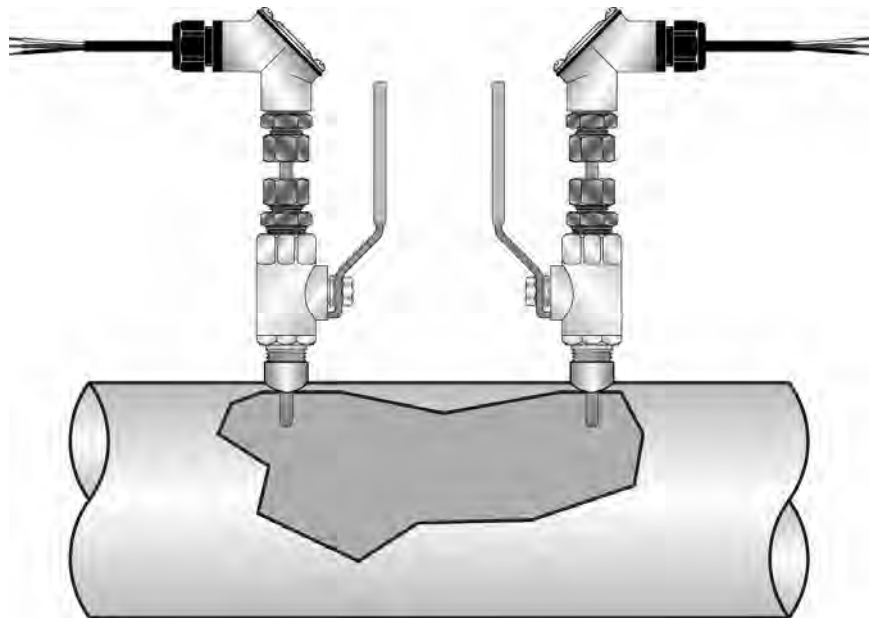

Figure 2.12
2. Insert the RTD sufficiently into the flow stream such that a minimum of 0.25" of the probe tip protrudes into the pipe diameter. See **Figure 2.12**.